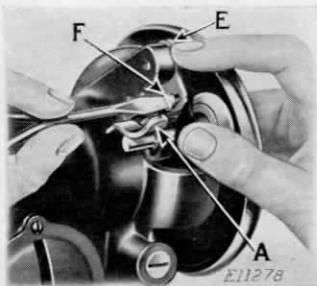

FIG. 8. ADJUSTMENT OF BOBBIN WINDER
If the pressure of the bobbin winder pulley against the hub of the balance wheel is insufficient for winding the bobbin, press down the bobbin winder until the latch (A) drops down and holds it, then loosen the adjusting screw (F). With the forefinger, push back the upper end of the slotted plate (E) as far as it will go, as shown in Fig. 8, and at the same time press the bobbin winder pulley against the hub of the balance wheel, then tighten the adjusting screw (F).